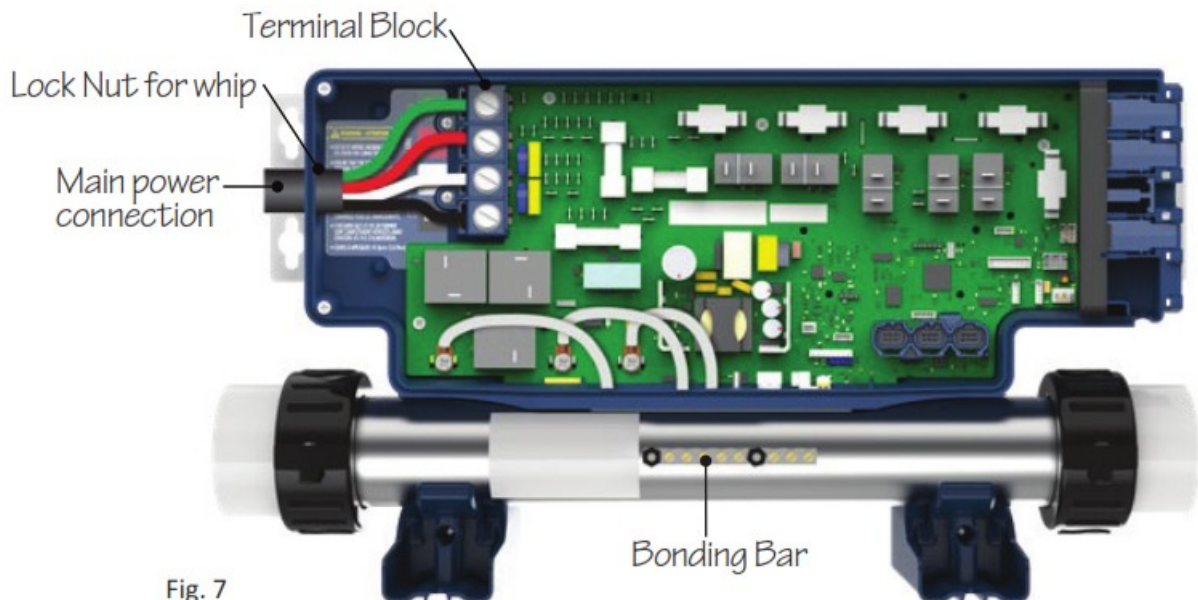

Fig. 7
- Remove the incoming power wires from the Terminal Block. Remove the electrical whip from the enclosure by removing the lock nut on the inside of the controller. Remove the copper bonding wires from the Bonding Bar (Fig. 7).